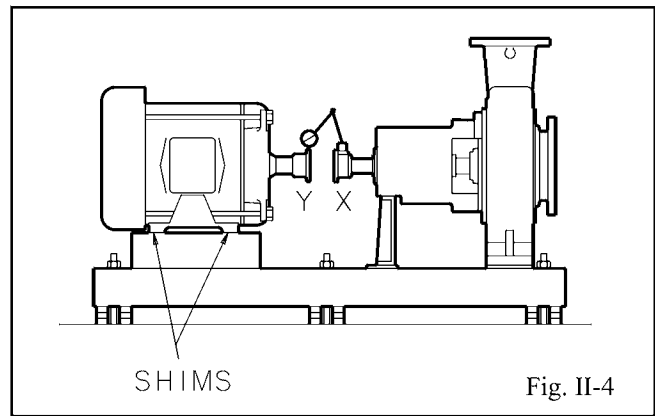

Fig. II-4
**Positive Reading** - Coupling half X is higher than coupling half Y. Correct by adding shims of thickness equal to half of the indicator reading from each driver foot (Fig. II-4).